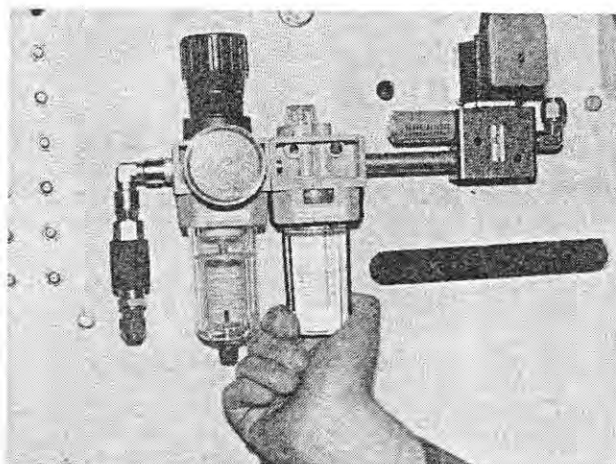
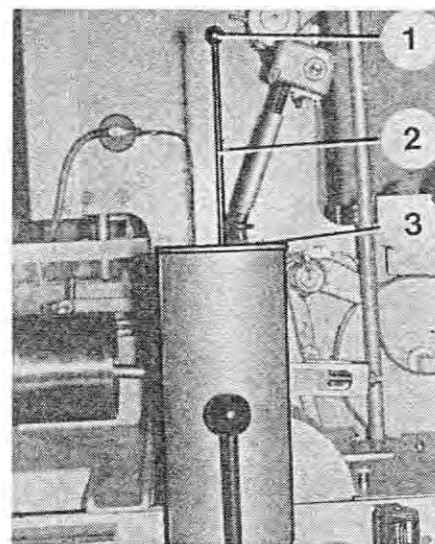

Fig. 58
Fig. 59
2. To top up with oil, turn the storage vessel to the left (Figure 58) and remove it downwards. Top up with oil up to the maximum mark. (Refer to section 1.2 for lubricants).
1. Check the grease level in the lubricating pump container. It is sufficient as long as the ball of the piston rod (Figure 59/1) is at least 20 mm above the cover (Figure 59/3).
2. To top up with grease, raise the cover (Figure 59/3). Grasp the piston rod (Figure 58/2) and pull the piston out of the lubricating pump container.
5. Vent the system. (Refer to section 5.16, item 6.)